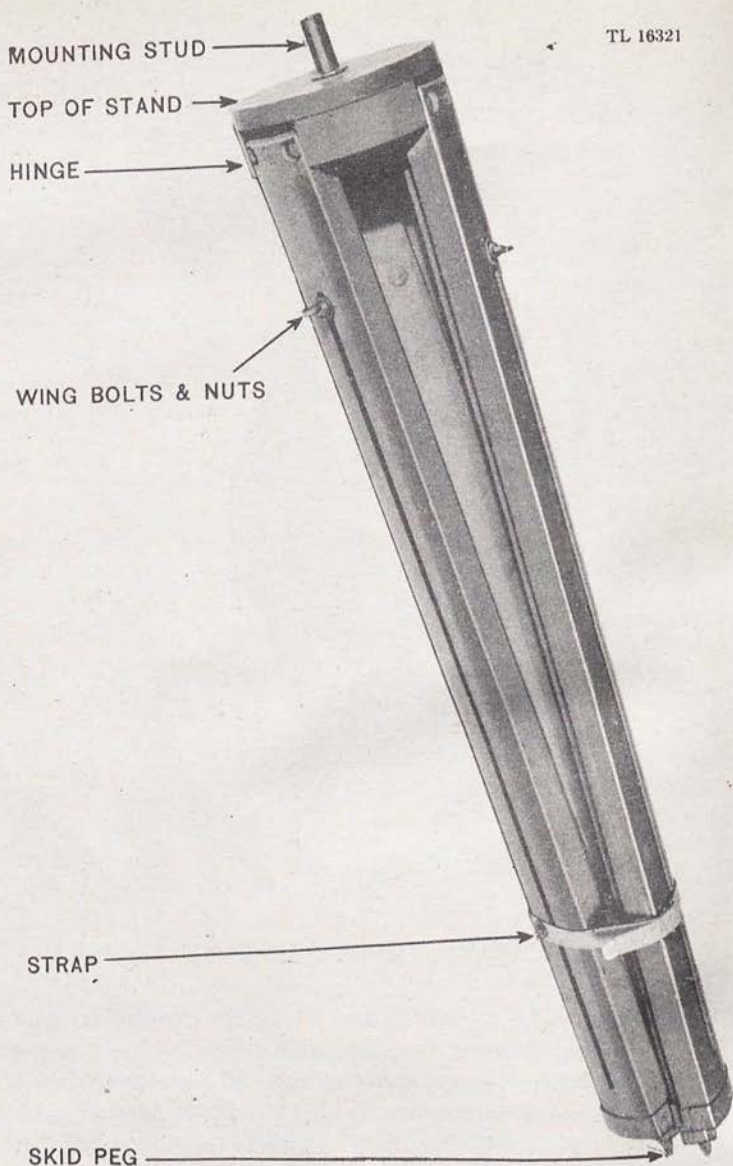

Figure 9. Loudspeaker Stand MT-128/TIQ-2.
m. Loudspeaker Stand MT-128/TIQ-2 (figs. 9 and 13). Stand MT-128/TIQ-2 is made of wood and painted olive drab. It consists of a round, flat top and three extensible legs, each fastened to the top by means of a hinge. The stand when closed measures 4 feet high by 7½